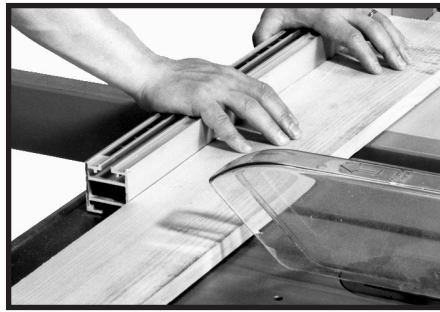

Fig. 59
3. Make a test cut on a piece of stock (Fig. 59). Make sure that the edge of the stock against the fence is straight. Check to see that the cut portion of the stock is 90 degrees to the edge of the stock (against the fence). If the cut is not 90 degrees, refer to **STEP 4**.